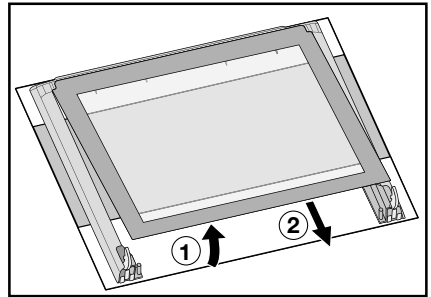

Fig. 8
10. Repeat the procedure described in point 9. for the middle pane marked by a decorative frame on 4 sides (Fig. 8).